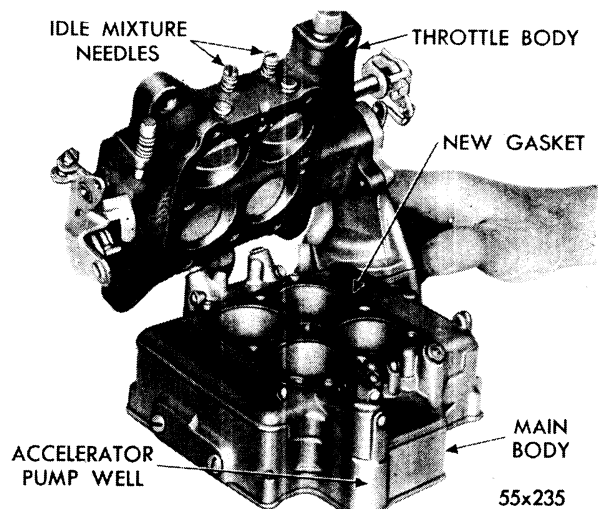

Fig. 22—Installing Throttle Body
- (21) Place the main body upside down on bench, and install a new throttle to main body gasket. Lower the throttle body down on the main body. (Refer to Fig. 22.)
- (22) Install screws and tighten securely. **The accelerator pump well should be on the same side as the idle mixture adjusting needles. Remember, the short attaching screw should be installed on the primary side.** Invert the carburetor and mount in repair stand, then assemble the main body.